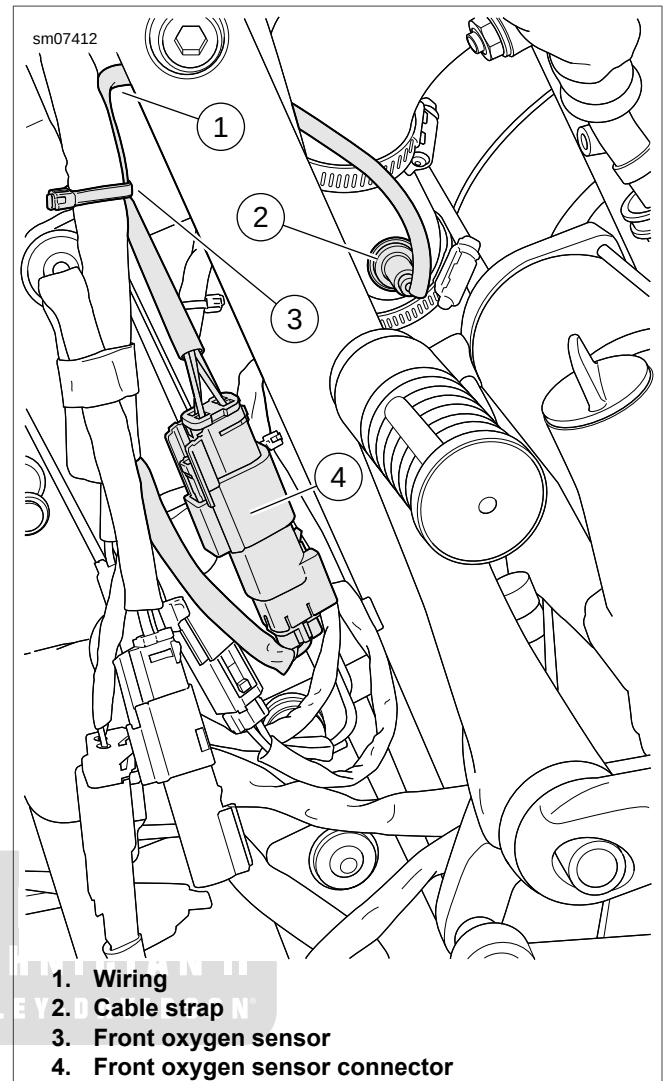

Figure 4-16. Front Oxygen Sensor
- a. **Front:** See Figure 4-16. Route wiring (1) to left side of radiator between radiator and frame tube.